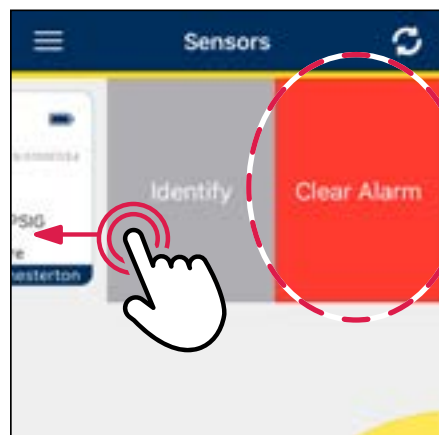

Figure 25
- For **IOS**: **swipe left** on the desired sensor (see figure 25).